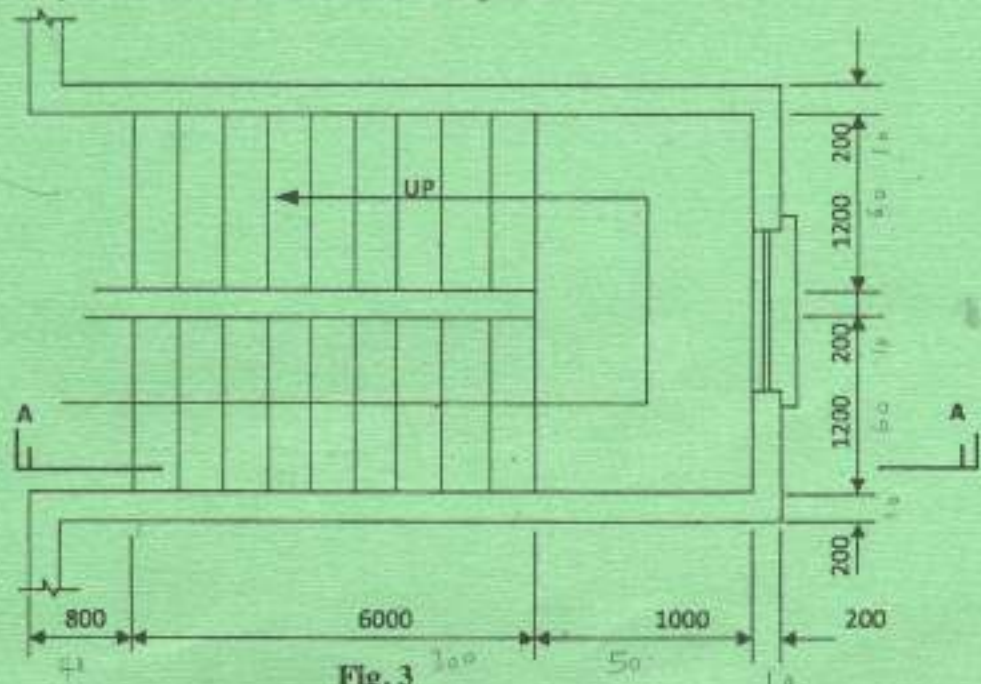

Fig. 3
- (b) Figure 3 shows the plan of a public reinforced concrete staircase. To a scale of 1:20, draw section A - A to show the details, given the following information. Ignore reinforcements including balusters and balustrades to Kenya Building code requirements. (15 marks)